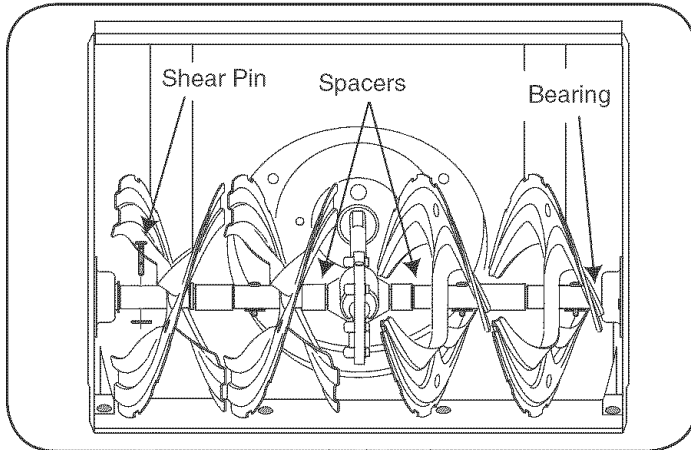

Figure 14
5. **Auger Shaft:** At least once a season, remove the shear pins on auger shaft. Spray lubricant inside shaft, around the spacers. Also lubricate the flange bearings found at either end of the shaft. See Figure 14.